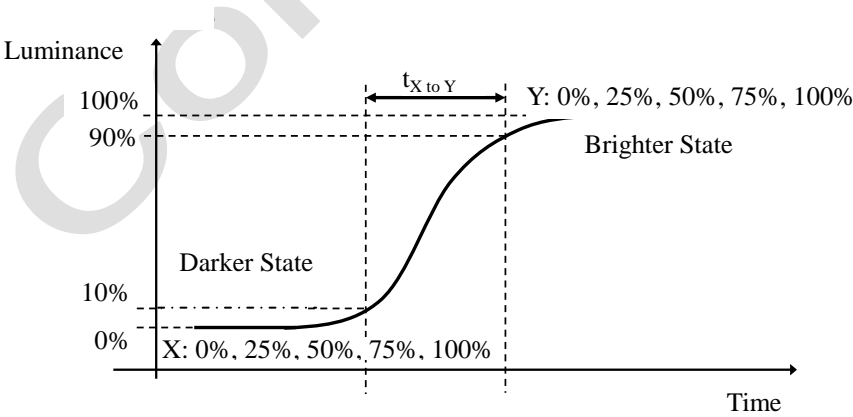

Fig. 7.4 The definition of $t_{X \text{ to } Y}$
(3) Response time T_L is defined as the average transition time in the response time matrix. The table below is the response time matrix in which each element $t_{X \text{ to } Y}$ is the transition time from luminance ratio X to Y . X and Y are two different luminance ratios among 0%, 25%, 50%, 75%, and 100% luminance. The transition time $t_{X \text{ to } Y}$ is defined as the time taken from 10% to 90% of the luminance difference between X and Y ($X < Y$) as illustrated in Fig.7.4. When $X > Y$, the definition of $t_{X \text{ to } Y}$ is the time taken from 90% to 10% of the luminance difference between X and Y . The response time is optimized on refresh rate $F_r = 60\text{Hz}$.